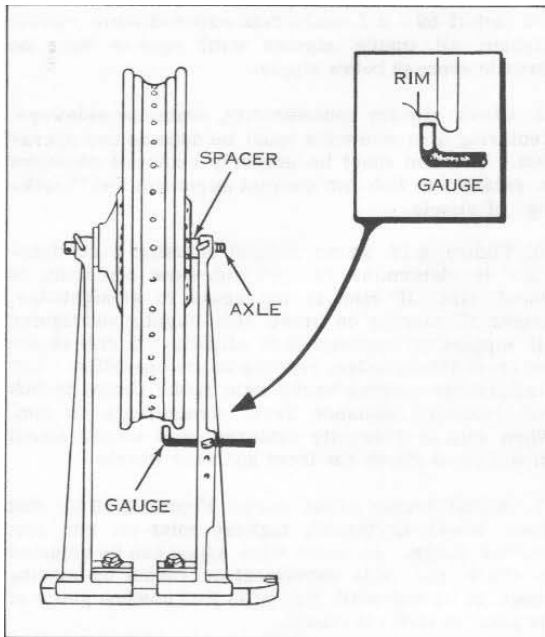

Figure 2.16. Truing Rim
1. Use wheel axle as truing arbor. Insert axle in wheel hub as described in "DISASSEMBLING AND ASSEMBLING WHEEL HUB," and place wheel in truing stand as shown in Figure 2.16.
7. Adjust truing stand gauge Figure 2.16 so that when wheel is turned, highest point on rim just touches gauge. At same time gauge can be adjusted to check rim side movement or runout by moving gauge in or out until rim bead just touches gauge at its point of farthest runout.